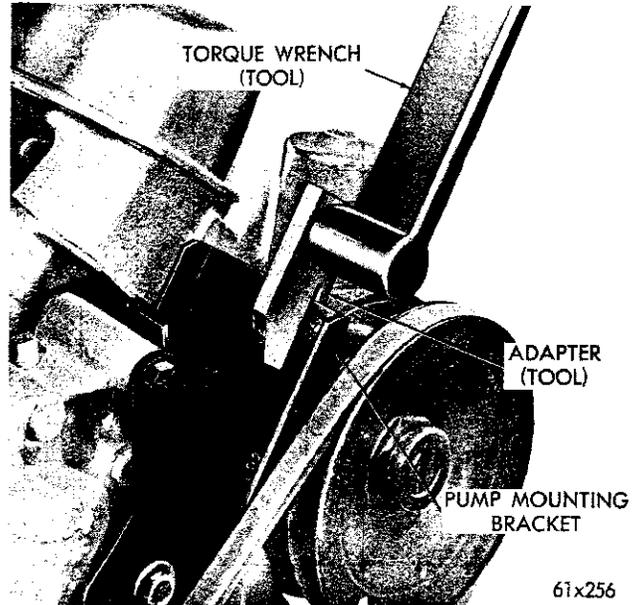

Fig. 70—Pump Belt Adjustment
(2) Install Tool C-3832 over the edge of the mounting bracket as close as possible to the outer edge of bracket and insert torque wrench drive in square hole of tool (Fig. 70).
(3) Tighten the pump belt until you get a reading of 45 foot-pounds on the torque wrench.
(4) While holding the tension with torque wrench, tighten the bracket mounting bolt nuts enough to hold the adjustment, then use torque wrench to 30 foot-pounds torque.